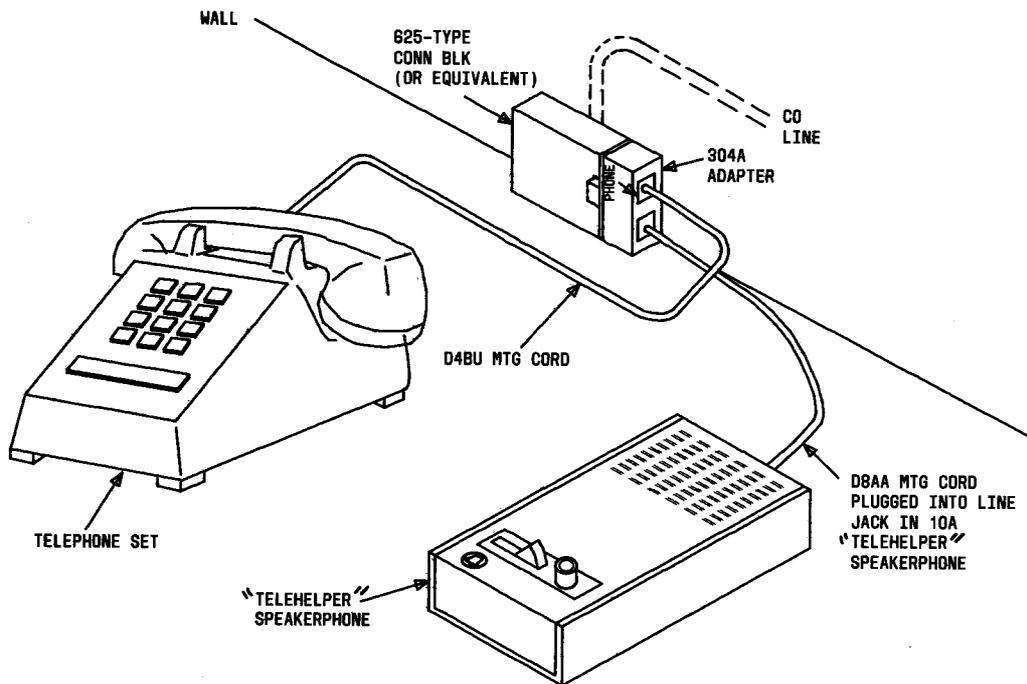

Fig. 7—Optional Installation for Single Line Modular Desk Type Telephone Set With D-180882 Kit of Parts
B. Optional Installation of Desk Telephone Using 304A Adapter (Fig. 7)
- Plug the 304A adapter (Fig. 7) into a 625-type connecting block or equivalent.